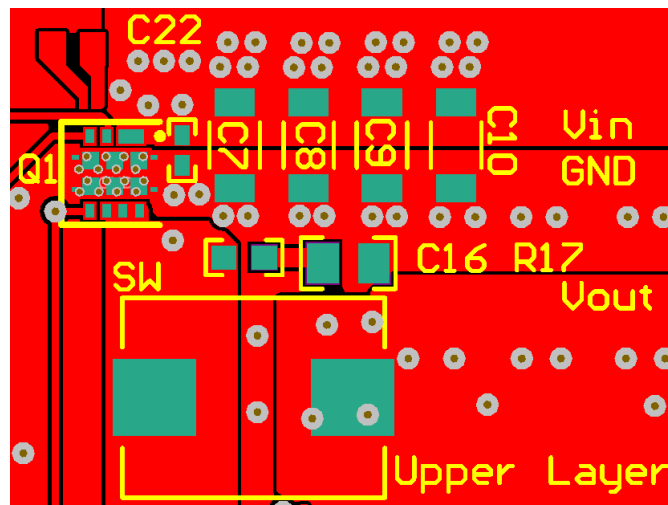
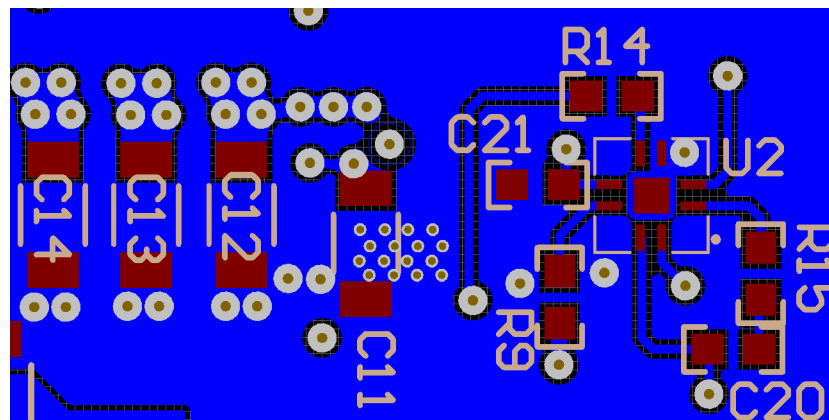

Figure 33. Recommended PCB Layout (Top Down View)
Figure 34. Recommended PCB Layout (Bottom View)
- The placement of the input capacitors relative to the power block's VIN and PGND pins should have the highest priority during the component placement routine. It is critical to minimize these node lengths. As such, ceramic input capacitors need to be placed as close as possible to the VIN and PGND pins (see Figure 33). It is recommended that one 3.3-nF (or similar), 0402, 50-V ceramic capacitor be placed on the top side of the board as close as possible to VIN and PGND pins. In addition, a minimum of 40 μ F of bulk ceramic capacitance should be placed as close as possible to the power block in a design. For high-density design, some of these ceramic capacitors can be placed on the bottom layer of PCB with appropriate number of vias interconnecting both layers.
- The switching node of the output inductor should be placed relatively close to the power block VSW pins. Minimizing the node length between these two components will reduce the PCB conduction losses and actually reduce the switching noise level. In the event the switch node waveform exhibits ringing that reaches undesirable levels, the use of a boost resistor or RC snubber can be an effective way to easily reduce the peak ring level. The recommended boost resistor value will range between 1.0 Ω to 4.7 Ω depending on the output characteristics of driver IC used in conjunction with the power block. The RC snubber values can range from 0.5 Ω to 2.2 Ω for the R and 330 pF to 2200 pF for the C. Please refer to Snubber Circuits: Theory, Design and Application (SLUP100) for more details on how to properly tune the RC snubber values. The RC snubber should be placed as close as possible to the VSW node and PGND (see Figure 33 and Figure 34).⁽¹⁾
(1) Keong W. Kam, David Pommerenke, "EMI Analysis Methods for Synchronous Buck Converter EMI Root Cause Analysis", University of Missouri – Rolla
- Use the smallest drill size allowed in your design. The examples in Figure 33 and Figure 34 use vias with a 10-mil drill hole and a 16-mil capture pad.